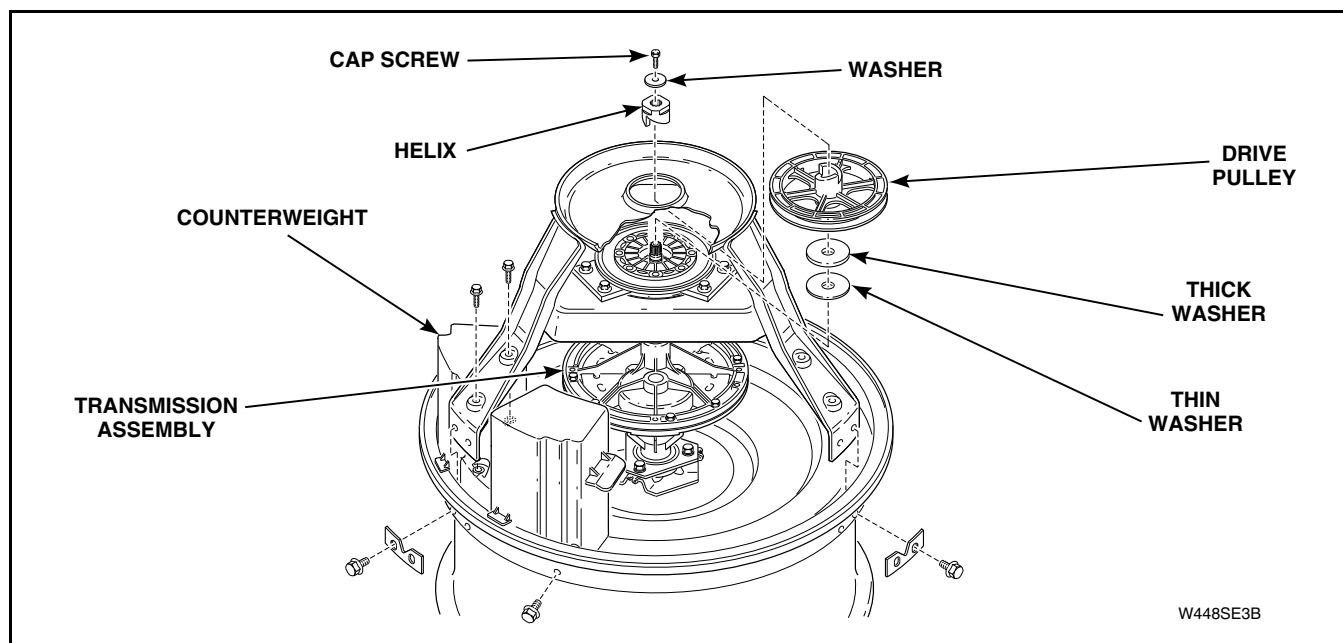
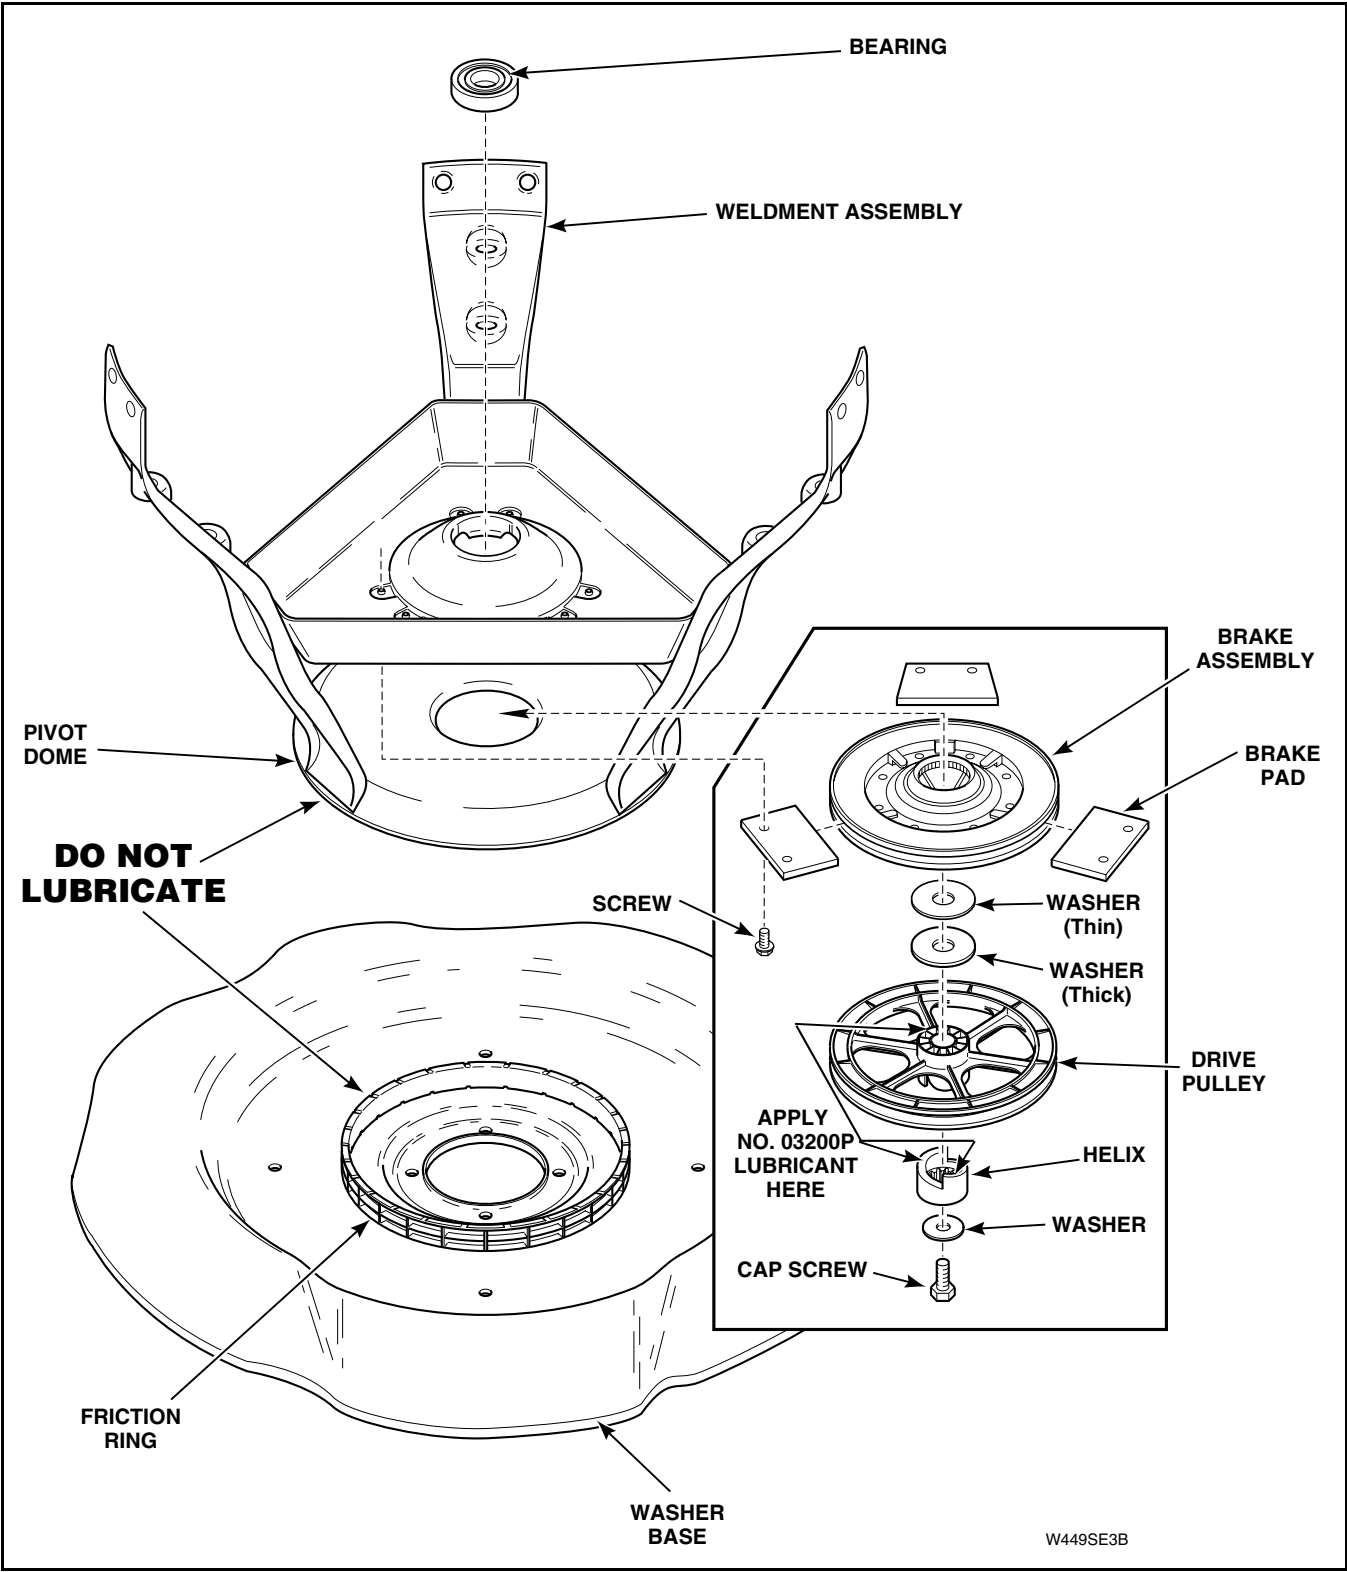

Figure 55
Figure 56
- q. Remove screw, washer and helix holding drive pulley to input shaft and transmission assembly. Refer to *Figure 55*.
NOTE: When reinstalling pulley, place a small amount of No. 03200P Lubricant on top side of the drive pulley that will be contacting large flat washers. Refer to *Figure 55* for assembly sequence. Lubricate helix ramps and bore with a small amount of No. 03200P Lubricant. Refer to *Figure 56*.
- s. Remove screws holding three brake pads and brake assembly to weldment assembly. Refer to *Figure 56*. Then remove brake assembly and pads off bottom of weldment assembly.
NOTE: Refer to *Figure 56* for assembly sequence.
- u. Remove screws and lockwashers holding counterweight and each support leg to outer tub. Refer to *Figure 55*. Then lift weldment assembly and counterweight off tub.